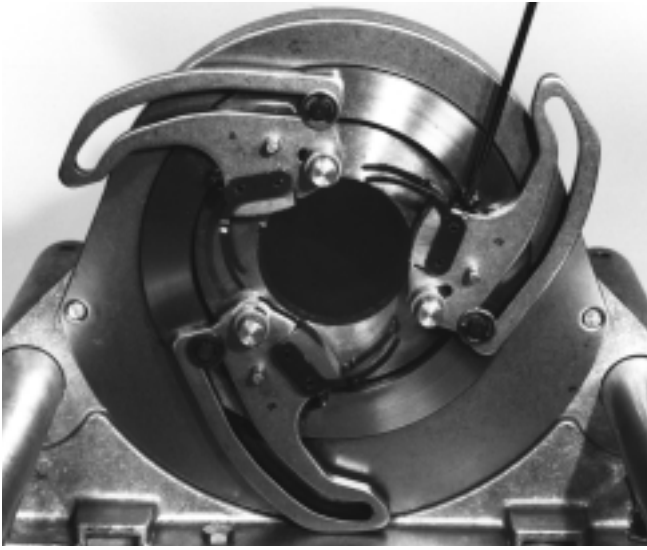

Figure 23A – Remove Jaw Insert
3. Loosen screw that holds jaw insert and centering finger in place. This should allow jaw insert to separate from jaw assembly. (Figures 23A & B)